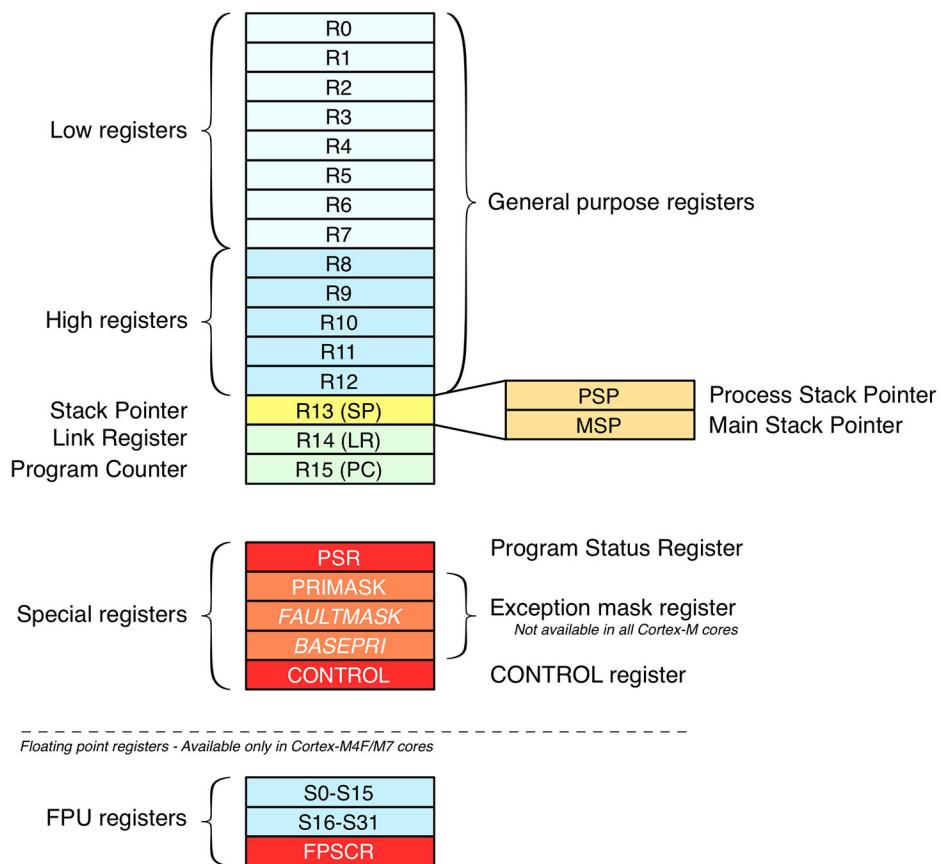

Figure 2: ARM Cortex-M core registers
**Figure 2** shows the core Cortex-M registers. Some of them are available only in the higher performance series like M3, M4 and M7. R0-R12 are general-purpose registers, and can be used as operands for ARM instructions. Some general-purpose registers, however, can be used by the compiler as registers with *special functions*. R13 is the *Stack Pointer* (SP) register, which is also said to be *banked*. This means that the register content changes according to the current CPU mode (privileged or unprivileged). This function is typically used by Real Time Operating Systems (RTOS) to do context switching.